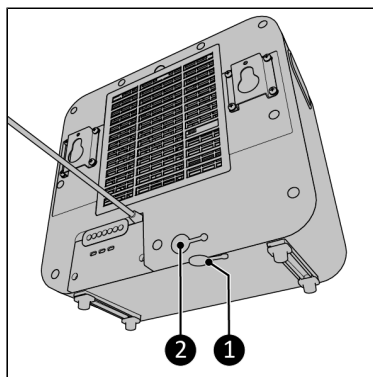

Figure 39.
1. Make sure both water stop plugs are in the indoor unit reservoir (Figure 39, pos. 1 and 2).
4. The water stop plug on the bottom of the indoor unit needs to be plugged in (Figure 39, pos. 1).
4. Drain the water from the indoor-unit (Figure 39, pos. 1).